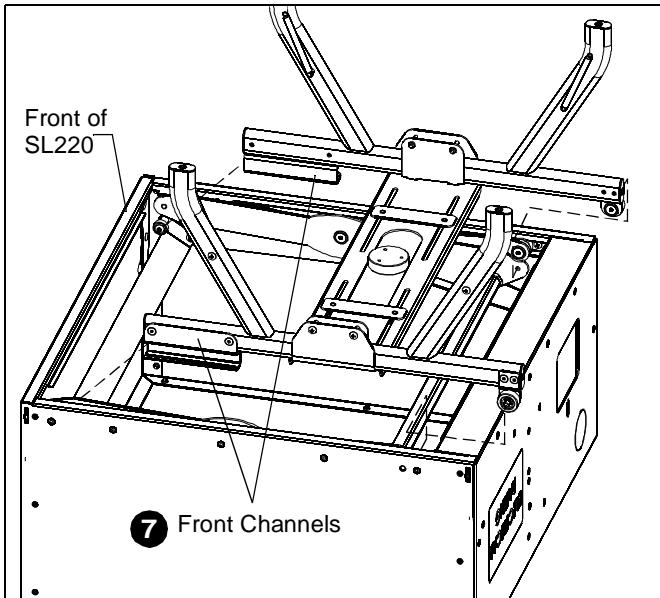

Figure 13
- Slide front channels of previously removed projector cradle forward onto the SL220 bearings. (See Figure 13)